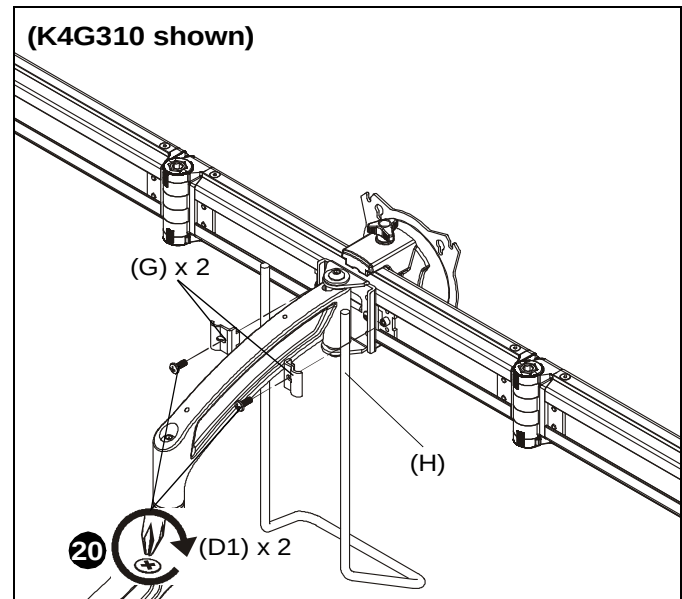

Figure 12
20. Use two #10-32 x 3/8 inch Phillips pan machine screws (D1) and two handle clamps (G) to secure handle (H) to array center (AA or BB). (See Figure 12)